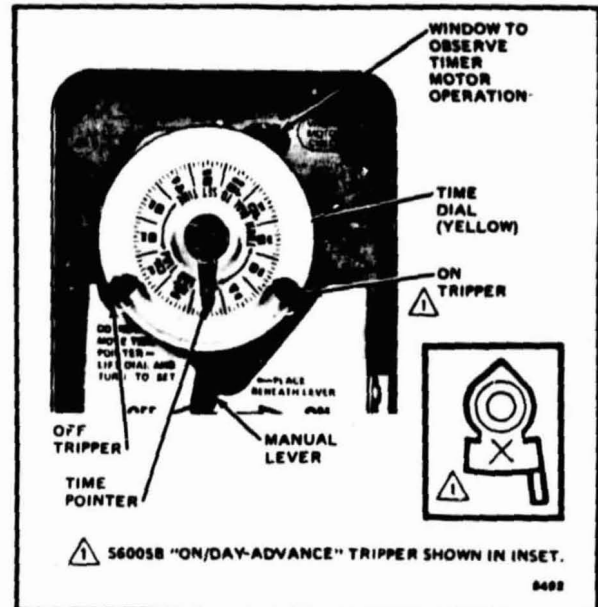

FIG. 7—SETTING 24 HOUR TIMERS (S4005A; S6005A,B).
#### SETTING "ON" AND "OFF" TIMES (FIG. 7)
**SETTING THE TIME OF DAY (FIG. 7)**
On the 54005A, 56005A, and 56005B (Fig. 7), move the lever to the right to switch to the ON position, and to the left to the OFF position (as indicated by arrows on the lever). The timer resumes automatic operation after completion of that cycle.